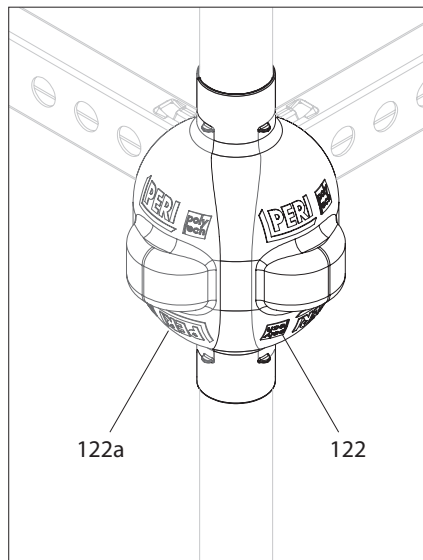

Fig. A16.03a
1. Clip the Poly Cover Couplings UPC-C (122) onto the vertical  $d = 48.3$  mm.
2. For ledgers arranged around a  $90^\circ$  corner: fit Poly Cover UPC-C (122 + 122a) in an overlapping manner. (Fig. A16.03a)